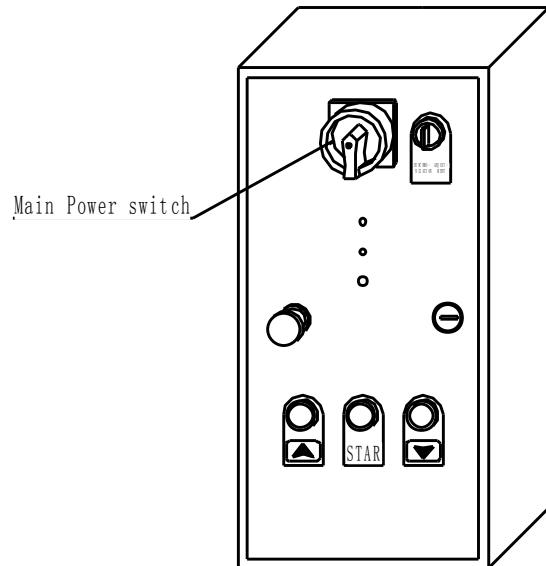

fig 21
- 2) Turn “0→1” switch on main electric cabinet to “1” (see fig 21)